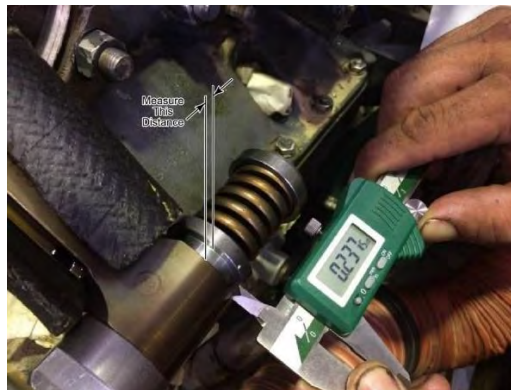

Figure 18
7. Measure the distance from the collar on the center section of the ST-531 to the edge of the connecting rod (Figure 18).
9. Re-measure the distance from the collar on the center section of the ST-531 to the edge of the connecting rod (Figure 18).